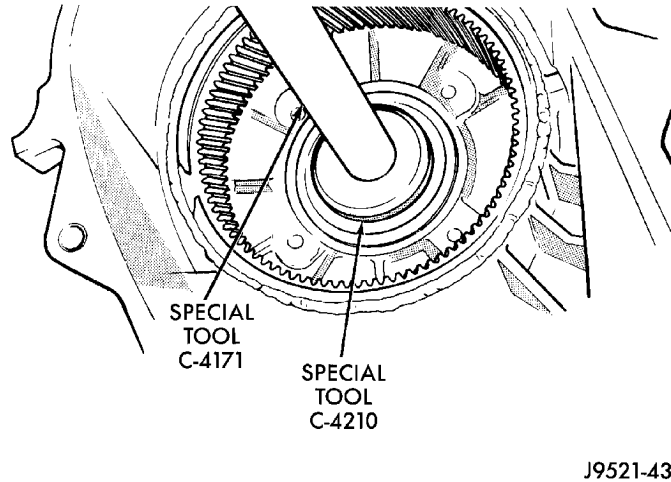
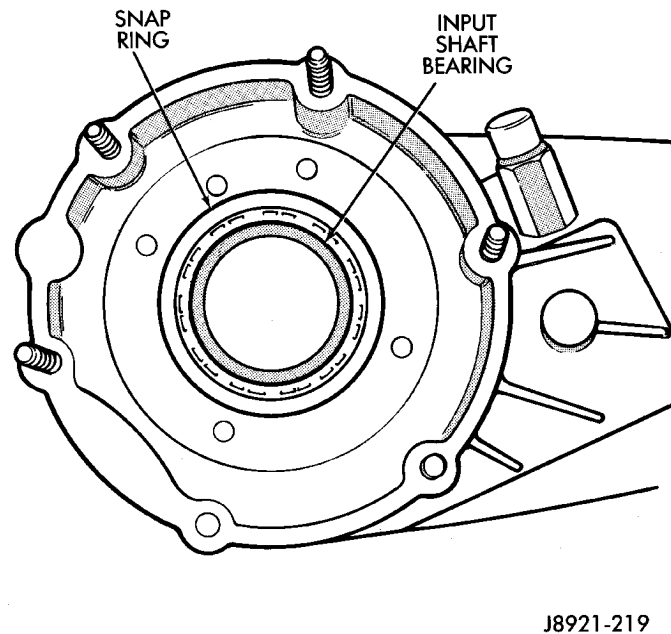

Fig. 52 Input Gear Bearing Removal
Fig. 53 Seating Input Gear Bearing
(6) Remove input gear bearing with Tool Handle C-4171 and Remover C-4210 (Fig. 52).
(7) Install snap-ring on new input gear bearing.
(8) Install new input gear bearing with Tool Handle C-4171 and Remover C-4210. Install bearing far enough to seat snap-ring against case (Fig. 53).